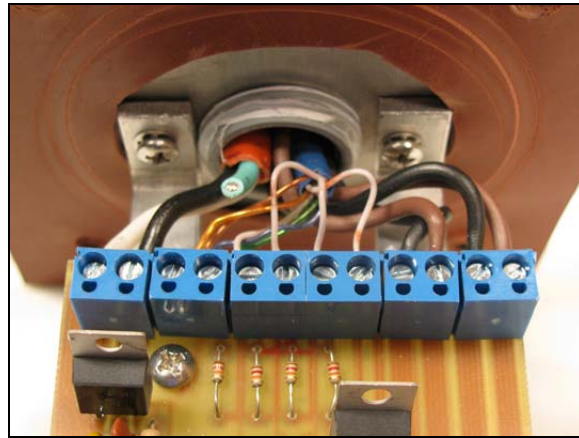

Figure 15: PCB Mounting Bracket Straddling the Gland
- Locate the mounting bracket on the end cap so that it straddles the gland (Figure 15).